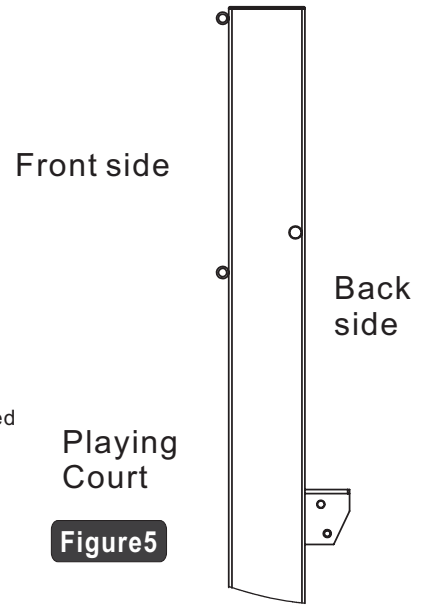

Figure5
NOTE: Face the Main Post (A) with Actuator Bracket facing away from playing court (as shown in FIGURE 5).